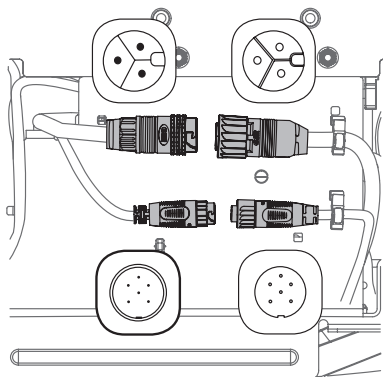

Figure 38
2. Disconnect the deck motor(s) from the adapters on the underside of the tractor. Rotate the connectors 1/4-turn counterclockwise and pull down (Figure 38).